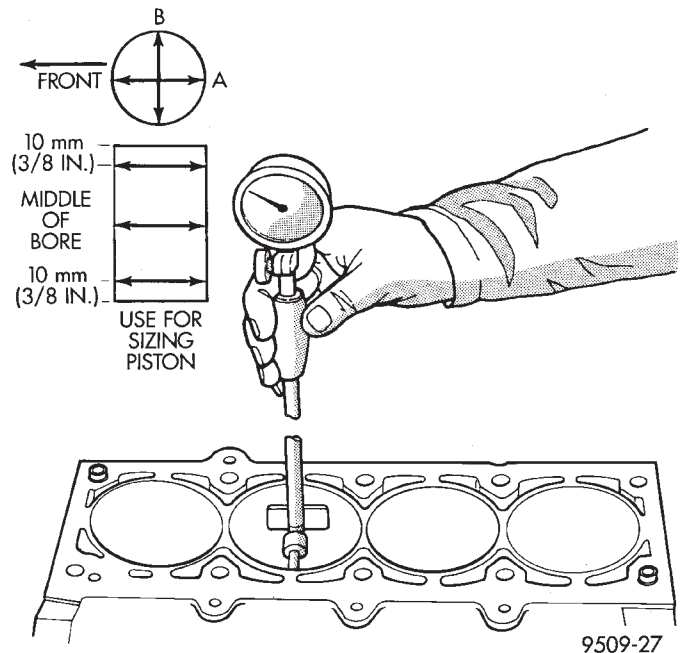

Fig. 67 Cylinder Bore Measurement
(1) It is mandatory to use a dial bore gauge to measure each cylinder bore diameter (Fig. 67). To correctly select the proper size piston, a cylinder bore gauge, capable of reading in 0.003 mm (.0001 in.) INCREMENTS is required. If a bore gauge is not available, do not use an inside micrometer.
(2) Measure the inside diameter of the cylinder bore at three levels below top of bore. Start perpen-